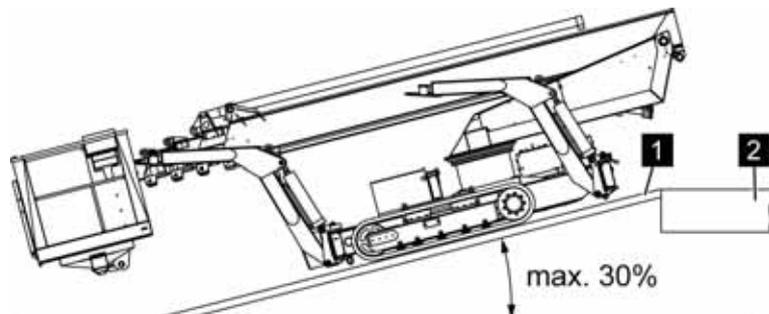

Fig. 40: Transport on a trailer
1. ➤ Move the aerial access platform in reverse on the ramps (Fig. 40/1).
2. ➤ When the machine begins to tip on the loading area (Fig. 40/2), slow down.
When the aerial access platform has been set completely on the loading area (Fig. 40/2) with the chains, it is safe to speed up again.